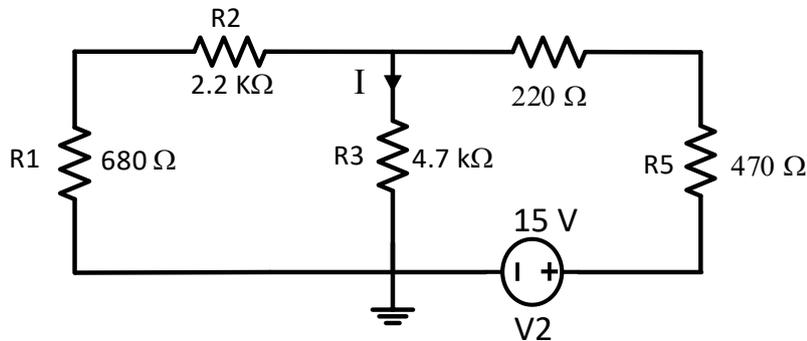

Figure 4.4
- Connect the circuit of Figure 4.4